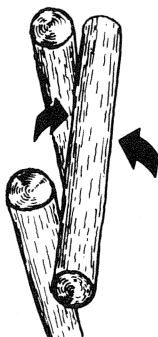
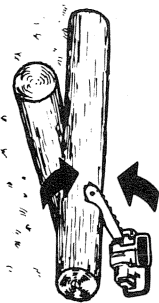

FIG. 29
FIG. 30
5. Log Raised at One End. First, cut from bottom (underbuck) for 1/3 of diameter of log to avoid splintering. (FIG. 30). Second, cut from top (overbuck) to meet the first cut. (FIG. 29). Second, cut from top (overbuck) for 1/3 of diameter of log.
6. Log Supported on Both Ends. First, cut from top (overbuck) for 1/3 of diameter of log. (FIG. 29). Second, cut from bottom (underbuck) to meet the first cut and avoid pinching the guide bar.